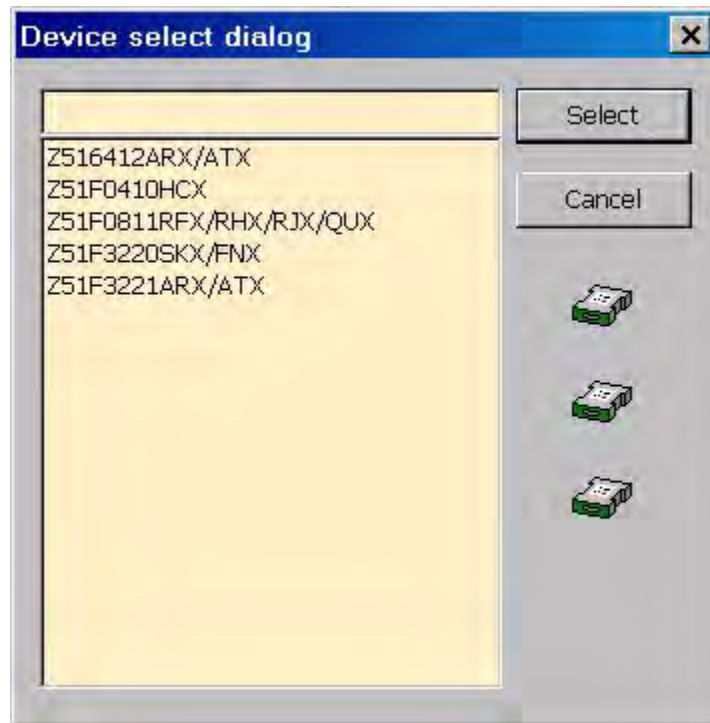

Figure 77. Device Select Dialog
2. From the **HexData** menu of the ISP, choose **Select Device**. The Device Select dialog box appears and displays a list of potential target devices, as shown in Figure 77.